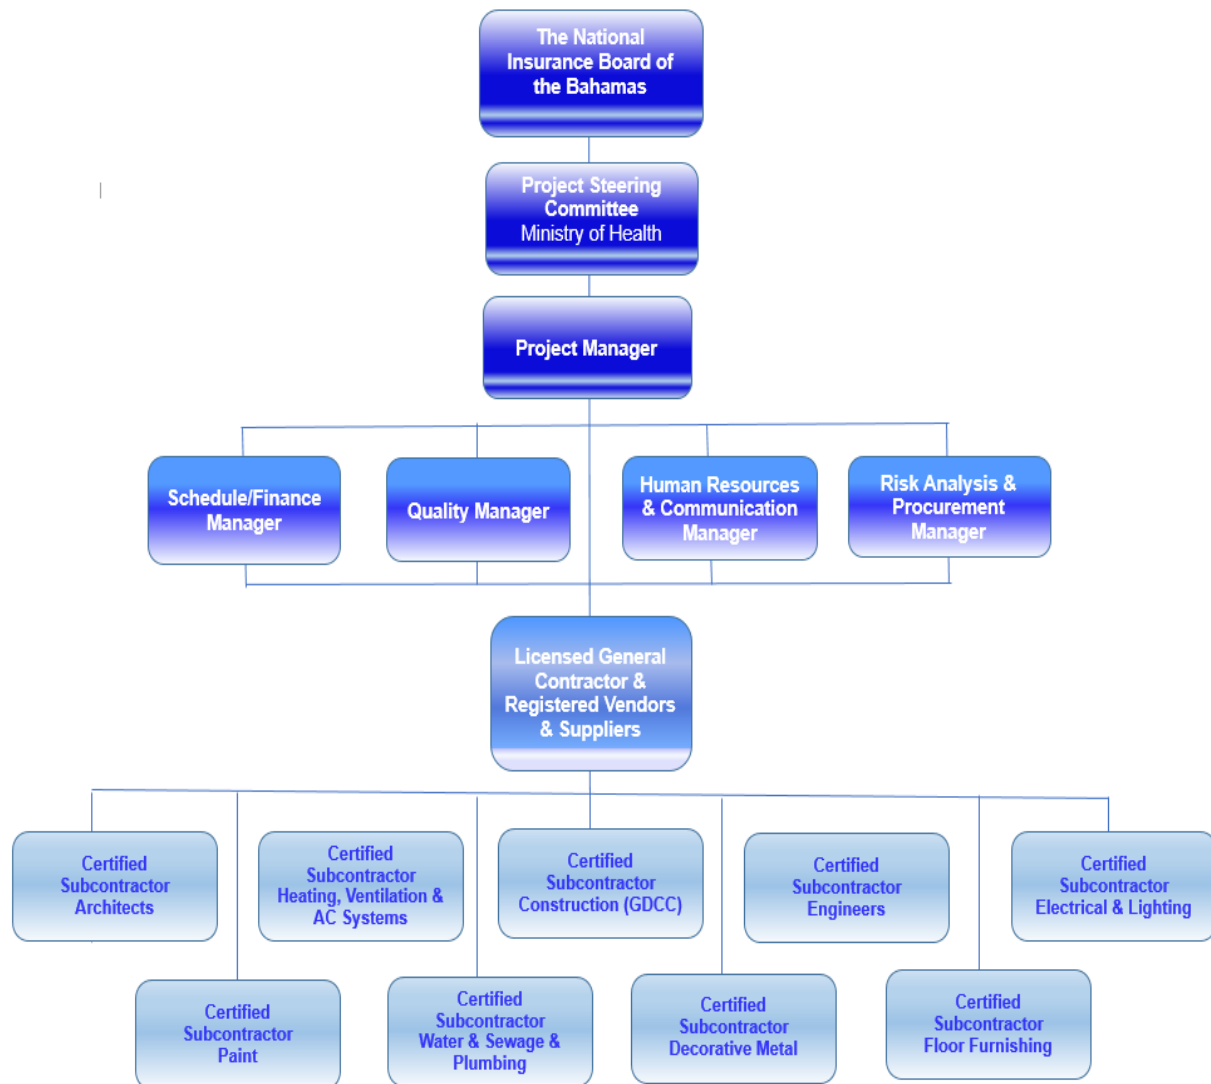

Figure 1: Organizational Structure of Seashore Management Services (Source D.J. Mackey, Project Manager, May 2019, compiled by author)
Above in *Figure 1* is the organizational structure of Seashore Management Services. The project is led by the National Insurance Board of the Bahamas, as it is the main entity financing the project. A steering committee and the project manager are figures on the organizational structure that play pivotal roles. There are four main managers, which are schedule/finance, the quality, human resources and communication, and risk analysis and procurement manager. Also, there is a licensed general contractor (GC) and registered vendors and suppliers position that reports to the project manager. All of the other positions are mainly contracted; however, these are persons that would have been used during other projects and made readily available, upon request.